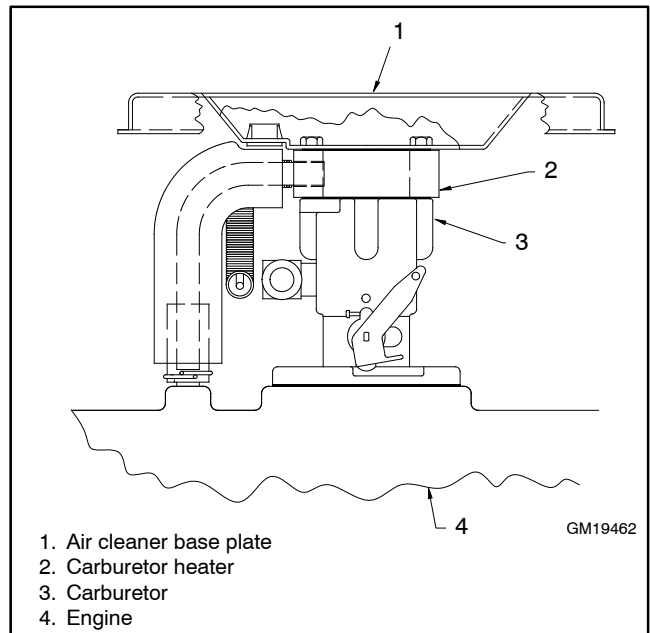

Figure 10 Carburetor Heater Location (if equipped), Models 14RESA(L)
- a. 14RESA: See Figure 10. Obtain kit GM102228-S. Follow the instructions provided with that kit to remove the carburetor heater and install the air cleaner spacer, two gaskets, and breather tube.